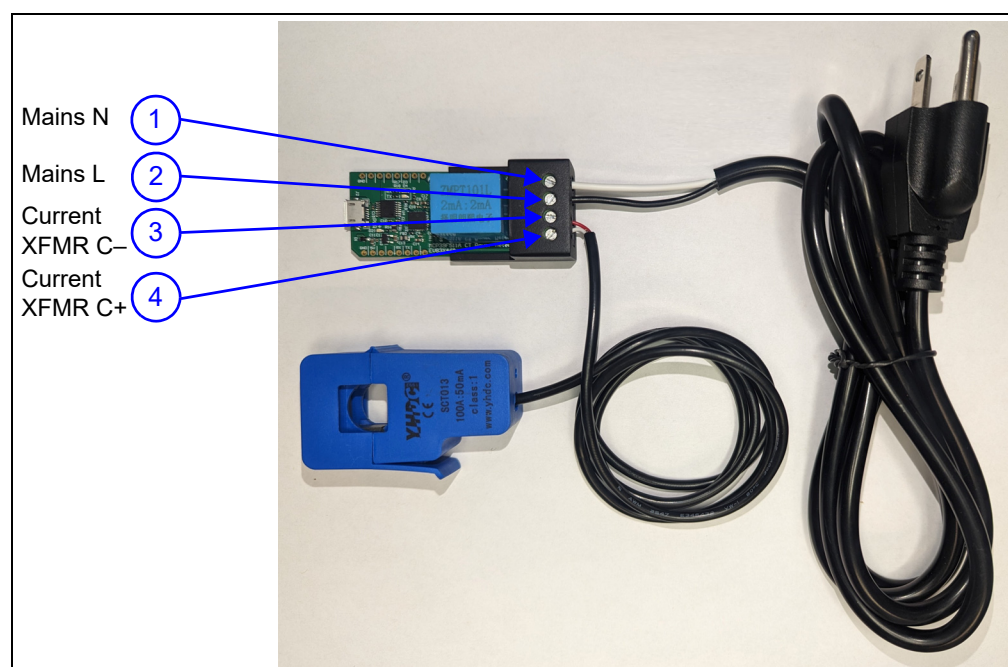

FIGURE 2-1: Wiring Connections.
- Updated **Figure 2-1** and **Figure 2-2**
- AC Line Cable (see Figure 2-1 and Figure 2-2).
Connect the SCT013-000 transformer to the MCP39F511A CT Power Meter by connecting the white wire to the C+ input at the J1 terminal block and the red wire to the C- input at the J1 terminal block (see Figure 2-1).